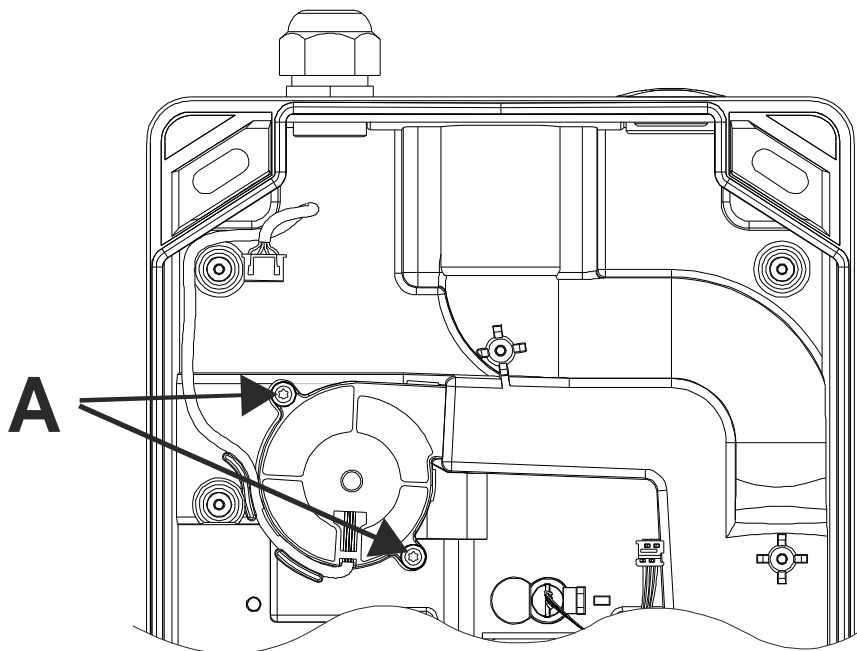

Fig.49 Removing the aspirating fan unit
- Remove the two screws A of the aspirating fan unit with a Torx T15 screwdriver (see Fig.49).